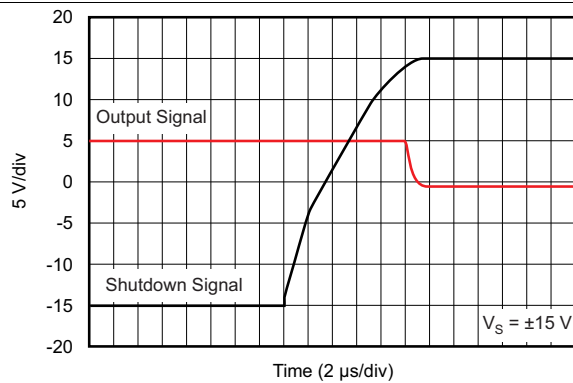

Figure 39. Turnoff Transient
(1) When disabled, the output assumes a high-impedance state.
(2) See Typical Characteristics curves (Figure 39 through Figure 41).
The shutdown (enable) function of the OPA211 is referenced to the positive supply voltage of the operational amplifier. A valid high disables the operational amplifier. A valid high is defined as  $(V+) - 0.35$  V of the positive supply applied to the shutdown pin. A valid low is defined as  $(V+) - 3$  V below the positive supply pin. For example, with  $V_{CC}$  at  $\pm 15$  V, the device is enabled at or below 12 V. The device is disabled at or above 14.65 V. If dual or split power supplies are used, care should be taken to ensure the valid high or valid low input signals are properly referred to the positive supply voltage. This pin must be connected to a valid high or low voltage or driven, and not left open-circuit. The enable and disable times are provided in the Typical Characteristics section (see Figure 39 through Figure 41). When disabled, the output assumes a high-impedance state.